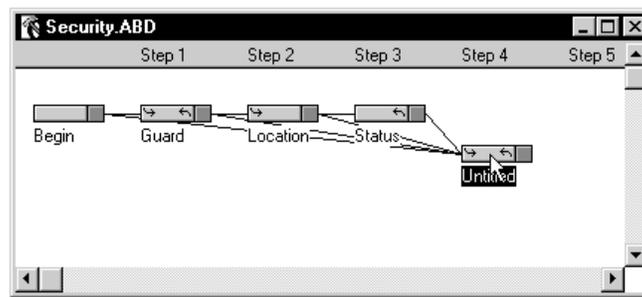

Figure 4-6 Click and Drag New Input Handler
- To verify that the new Input Handler is attached to each of the other Input Handlers, click and drag the new Input Handler down the window (Figure 4-6). You should see connecting lines between the new Input Handler and each previous Input Handler.